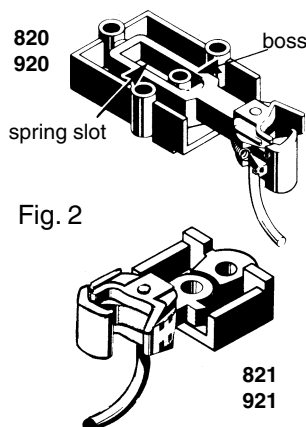

Fig. 2
3. Place coupler into draft gear box as shown in Fig. 2. Add a little more Greas-em and work coupler back and forth within box to further burnish.